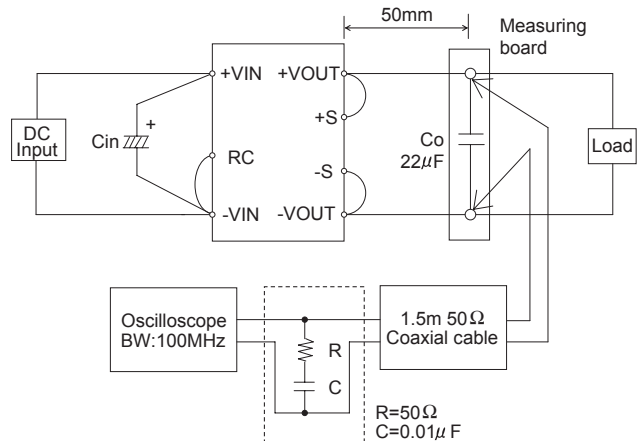

Fig.3.3 Measuring method of Ripple and Ripple Noise
- Ripple and Ripple Noise are measured, as shown in the Fig.3.3. Cin is shown in Table 2.1.